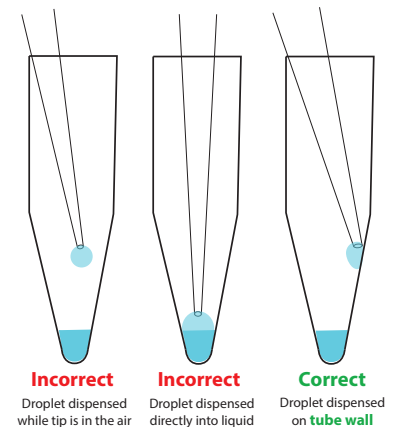

Figure 4. Pipetting Technique
- 1. Manual Pipetting Technique:** All reagent additions should be dispensed onto the wall of the tube or well as shown in Figure 4. To avoid material loss in the reaction, it is important to avoid direct contact between pipet tips and the cell suspension, lysate, or other reaction intermediaries during manual reagent additions. Loss of a small amount of liquid is unavoidable whenever the pipet tip is allowed to come into contact with the reaction mix.